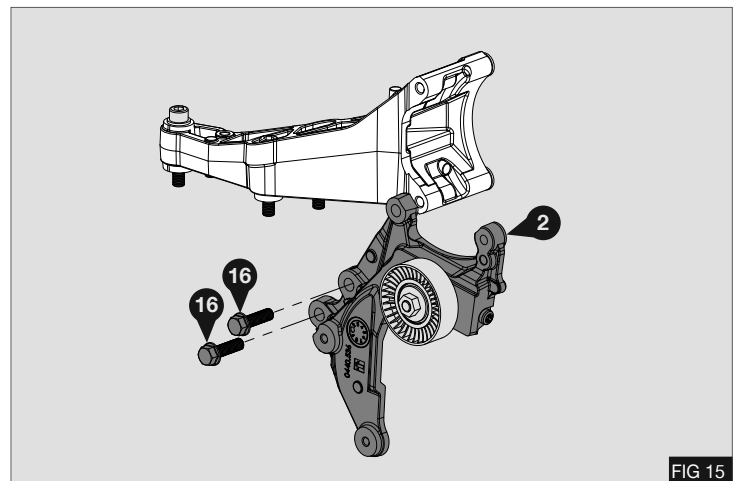

FIG 15
- Install the adjuster bracket (2) to the side of the engine using 2x M10x35 bolts (16). Tighten the 2x bolts hand tight so that they only allow **up and down** movement of the bracket – Fig 15